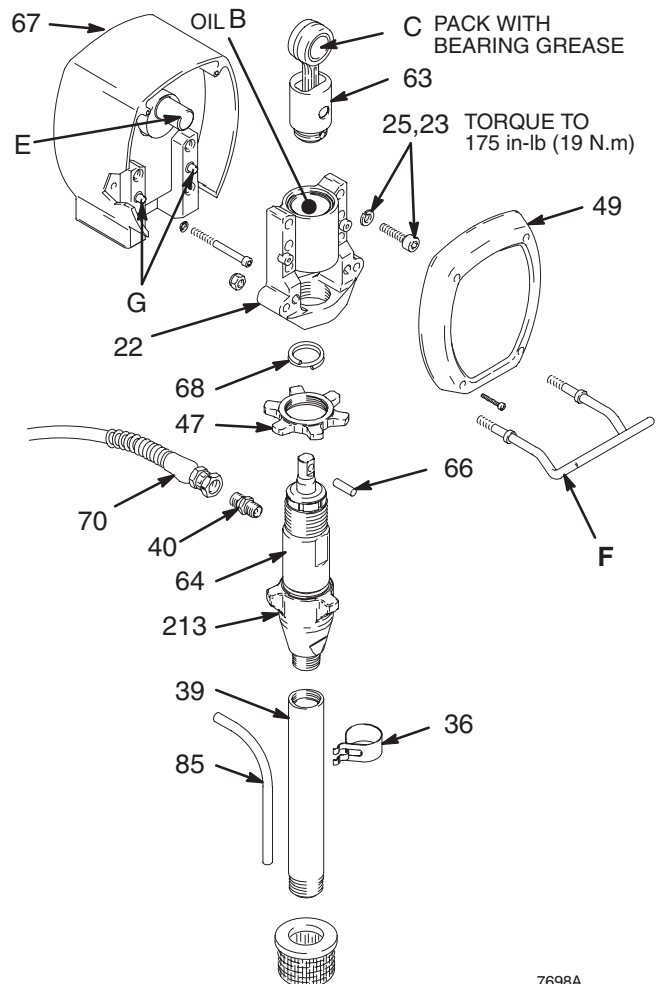

Fig. 17
**NOTE:** Read **General Repair Information** on page 16 before doing this procedure. See Fig. 17.
**NOTE:** Stop sprayer at bottom of its stroke to get crank (E) in its lowest position. To lower crank manually, carefully rotate blades of fan with a screwdriver.
2. Remove front cover (49). Unclip drain hose (36) from pump. Hold a wrench on pump intake valve (213) and unscrew pump suction tube (39). Disconnect pump hose (70).
3. Push up retaining spring (68). Push pin (66) out rear.
4. Loosen locknut (47). Unscrew displacement pump (64).
6. Lightly tap lower rear of bearing housing (22) with a plastic mallet to loosen it from drive housing (67). Pull bearing housing and connecting rod assembly (63) straight off drive housing.
7. Remove pail bracket assembly (F) and install it on new bearing housing.
8. Inspect crank (E) for excessive wear and replace parts as needed. Evenly lubricate inside of bronze bearing (B) with high quality motor oil. Liberally pack roller bearing (C) with bearing grease.
9. Assemble connecting rod (63) and bearing housing (22).
14. Install remaining parts. See Fig. 17.